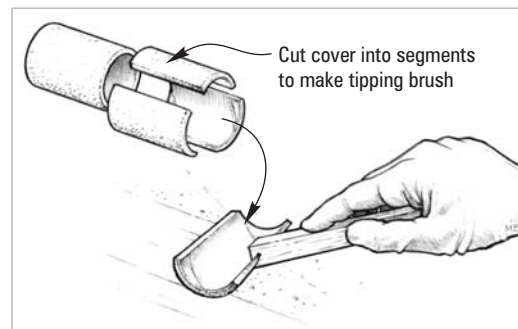

Figure 9-24 Tip off the fresh coat of epoxy with the grain, using a foam roller brush to remove bubbles and roller marks.
8. Drag a foam roller brush lightly over the fresh epoxy in long, even, overlapping strokes after each full batch is applied. Use enough pressure to smooth the stipple, but not enough to remove any of the coating (Figure 9-24). Alternate the direction in which each coat is tipped off, 1st coat vertical, 2nd coat horizontal, 3rd coat vertical, etc. A WEST SYSTEM 800 Roller Cover can be cut into segments to make a tipping brush.